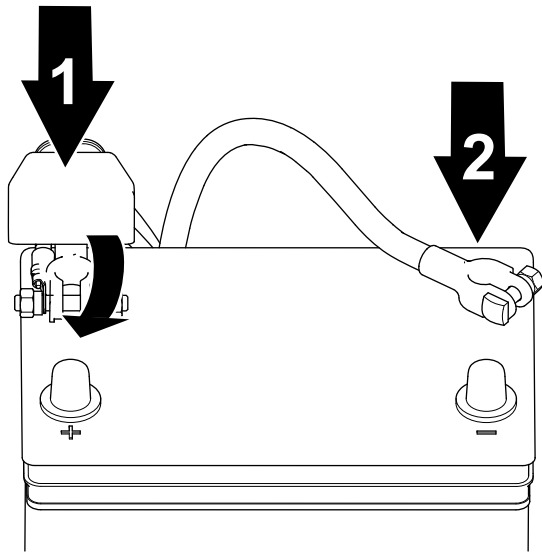

Figure 88
1. Connect the positive cable to the battery and tighten the battery-clamp nut (Figure 88).
2. Connect the negative cable to the battery and tighten the battery-clamp nut (Figure 88).